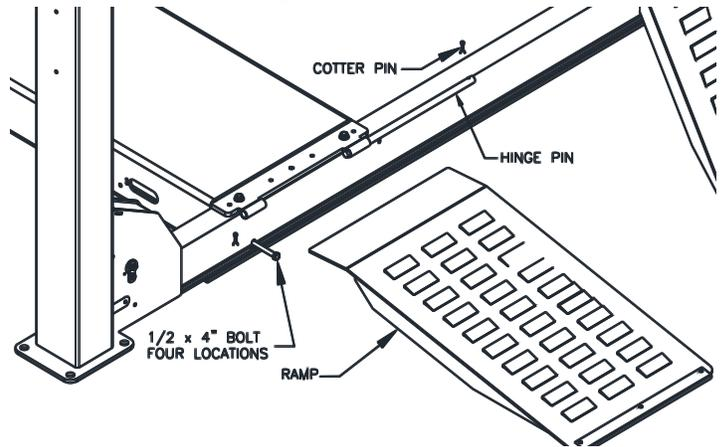

Fig 30 – Crossbeam Bolts and Ramp Install
85) Install the four 1/2-13 x 4" bolts through front and rear crossbeam and into the runways. Torque to 60–80-foot pounds. See **Fig 30**.
86) Assemble each Ramp using the hinge pins and cotter pins. See **Fig 30**.